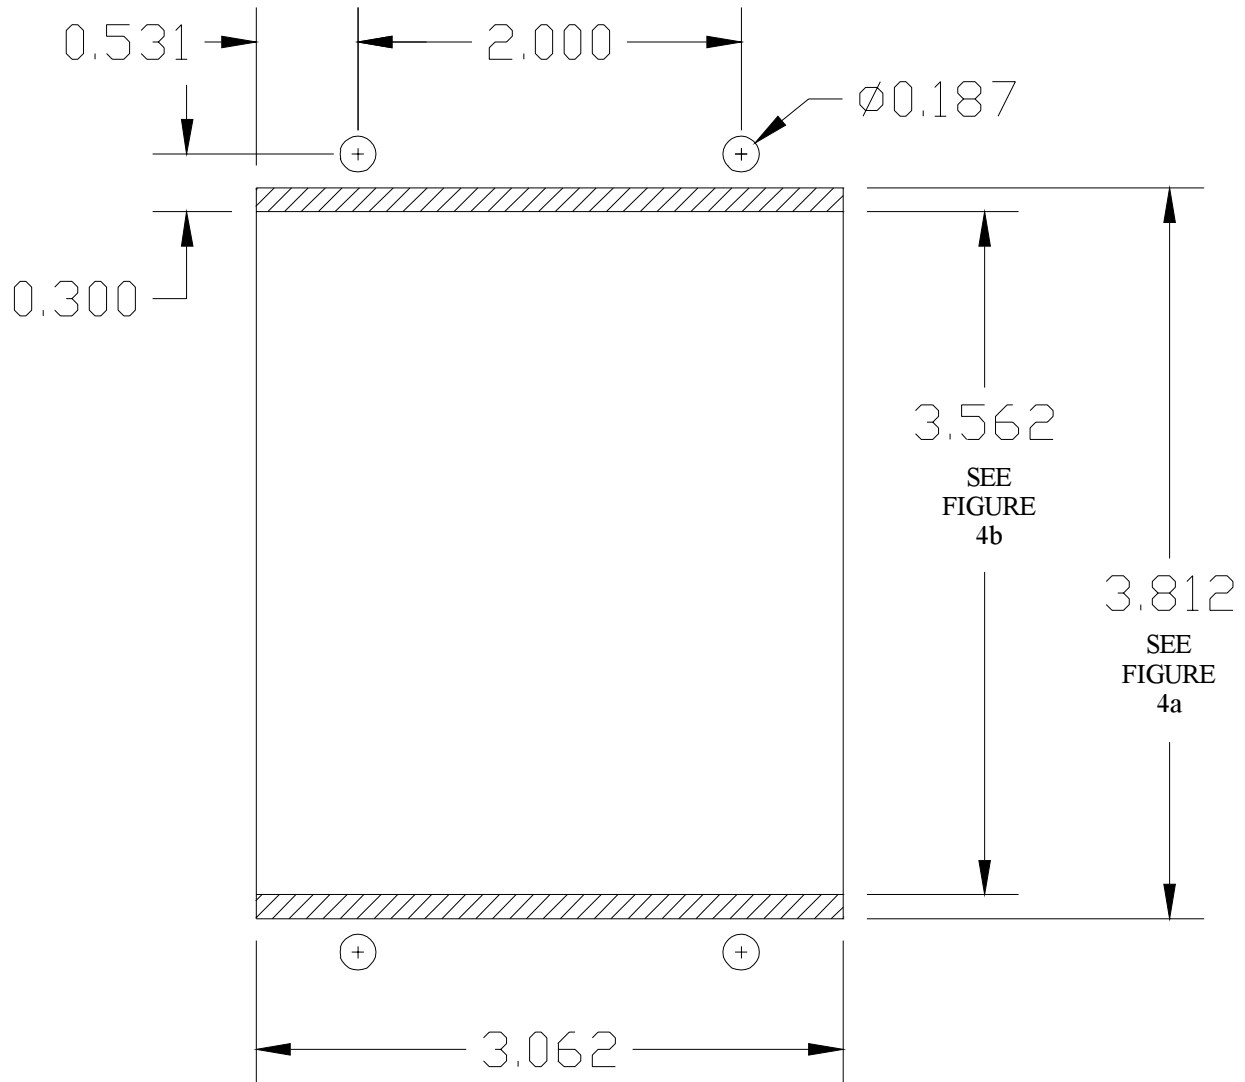

Figure 6
- 11) Cut opening in panel and drill mounting holes. See template figure 6.
- 12) Position assembly in panel cut-out and secure with supplied #8-32 x 5/8" black screws (G) and #8 nuts (J).
- 15) Drill holes in panel. See template figure 6.